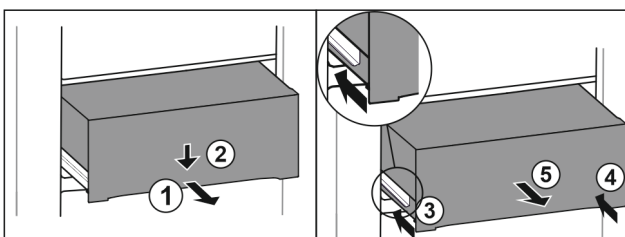

Fig. 77
- ▶ Pull out drawer half-way. Fig. 77 (1)
- ▶ Push the drawer down at the front. Fig. 77 (2)
- ▶ Push the left rail in by about 2 cm. Fig. 77 (3)
- ▶ Push the right rail in by about 2 cm. Fig. 77 (4)
- ▶ Remove drawer to the front. Fig. 77 (5)